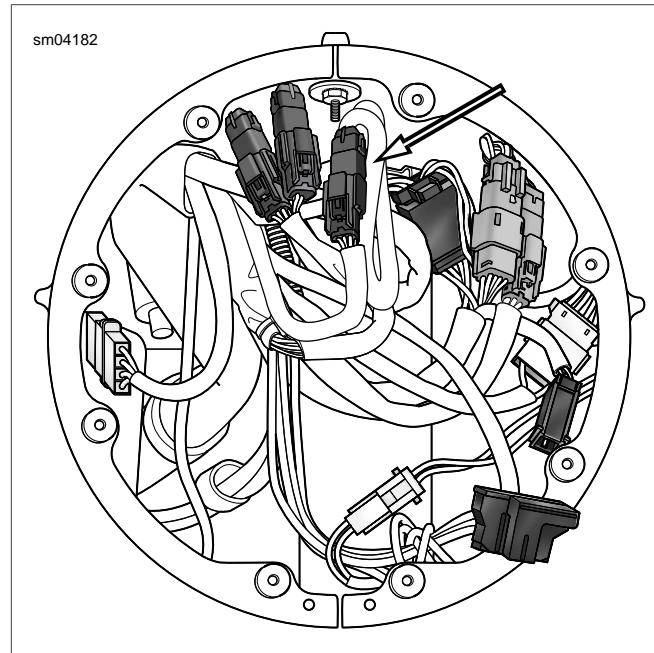

Figure 4-18. Twist Grip Sensor Jumper Harness Connector (FLHR/C)
9. **FLHR/C:** See Figure 4-18. Remove headlamp and handlebar clamp shroud. See 2.47 HEADLAMP NACELLE: FLHR/C. Remove twist grip sensor jumper harness connector [204], 6-place Molex (black), from T-stud on fork stem nut lock plate (right side) and disconnect.